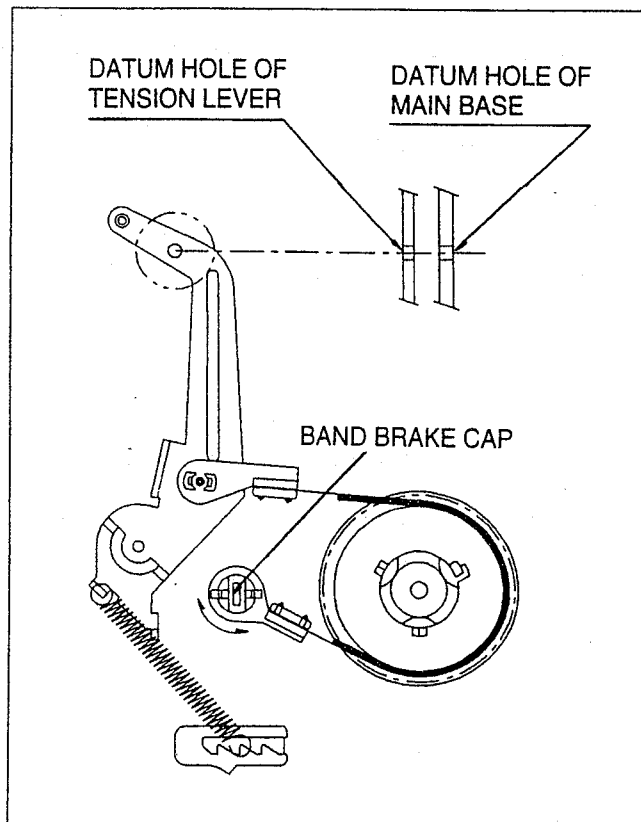

Fig. 4-6 ADJUSTMENT OF THE TENTION POLE POSITION
- 3) If they do not meet, turn the BAND BRAKE CAP to the CW or the CCW direction until holes meet each other (See Fig. 4-6).